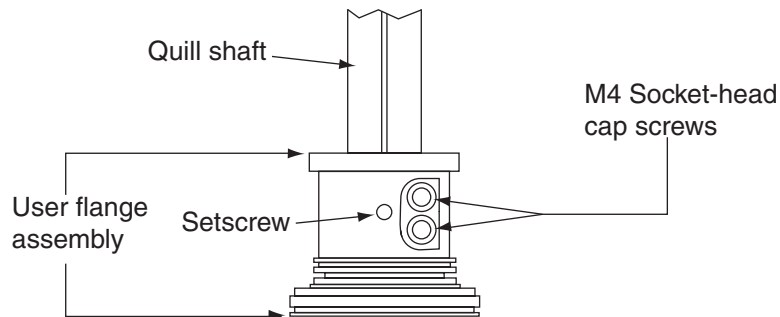

Figure 6-1. User Flange Removal Details
3. Use a 2.5 mm Allen driver to loosen the setscrew (see Figure 6-1 on page 70). Note the vertical-spline groove that is in line with the setscrew. You must replace the flange in the same position.